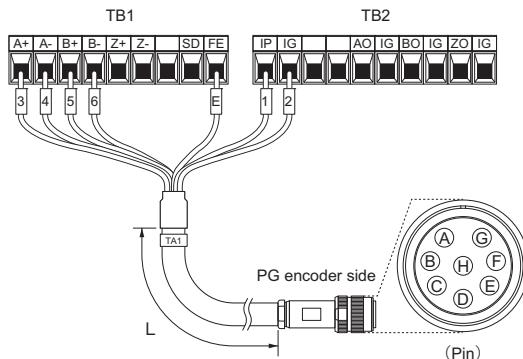

Figure 9 Wiring PG Encoder Cable
5. Wire the motor PG encoder to the terminal block on the option. Refer to Figure 8 and Figure 9 for wiring instructions. Refer to Option Terminal Functions on page 25 for a detailed description of the option terminal functions.
Yaskawa recommends using a LMA-□□B-S185Y (complementary output) for cables running between the option and the PG as show in Figure 9.